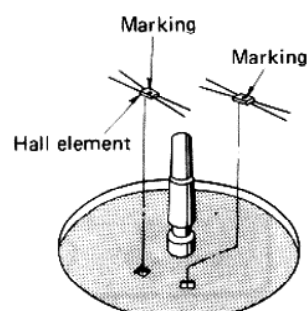

Fig. 10
* The Hall element should be installed with the marking side up as in Fig. 10.